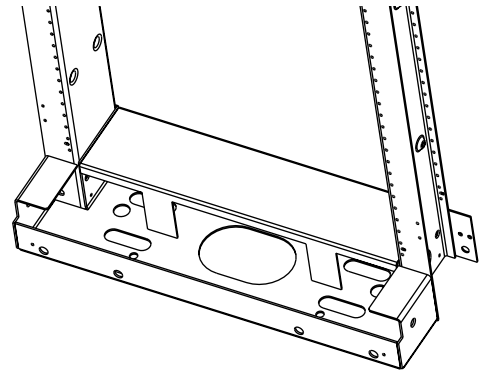

Figure 2
**Step 1:** The foot extension that comes with the IBD is to be installed first. To do so, remove the two screws on the front of the frame foot cap to remove the cover (Figure 2).